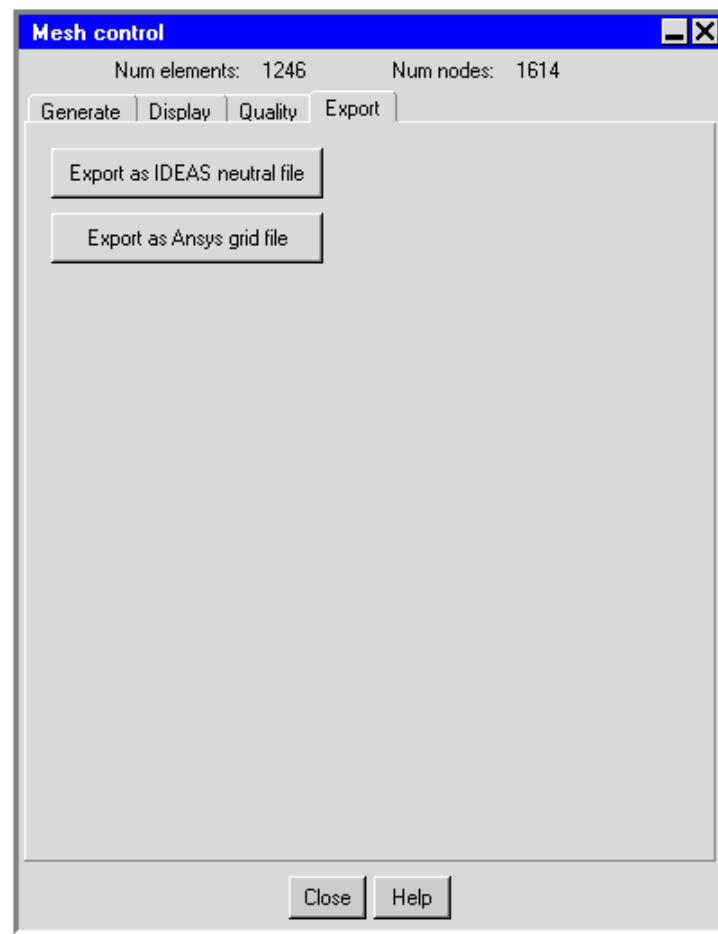

Figure 26.11.1: The Export Tab in the Mesh control Panel
2. Click on the **Export** tab to show the export options, as shown in Figure 26.11.1.